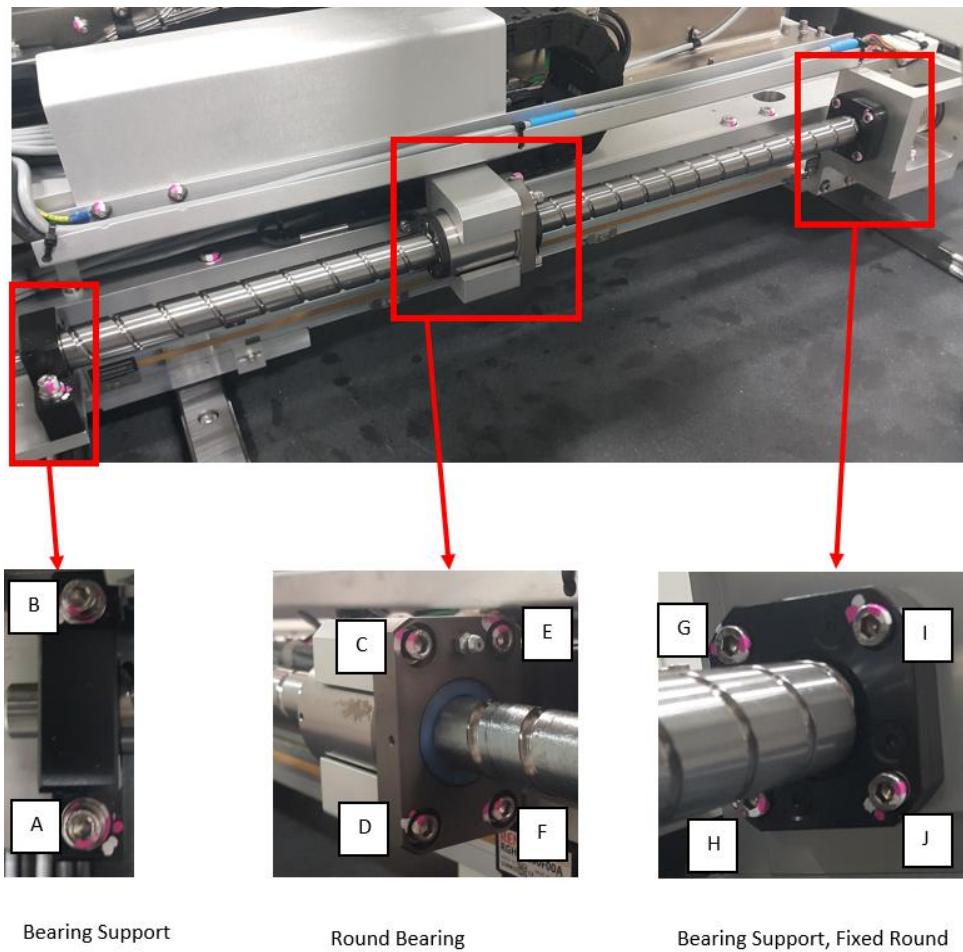

Figure 5 Ball screw
- Remove the screw at "A" & "B" of the Bearing Support with M6 Allen Key as shown in Figure 5.
- Remove the screw at "G" to "J" of the Fixed Support Bearing with M5 Allen Key as shown in Figure 5.
- Remove the screw at "C" to "F" of the Fixed Support Bearing with M6 Allen Key as shown in Figure 5.